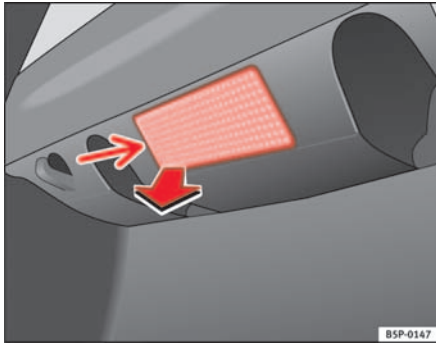

Fig. 166 Luggage compartment light
- Extract the tulip shaped fitting by pressing on the inside edge of this -arrow- using the flat side of a screwdriver ⇒ fig. 166.